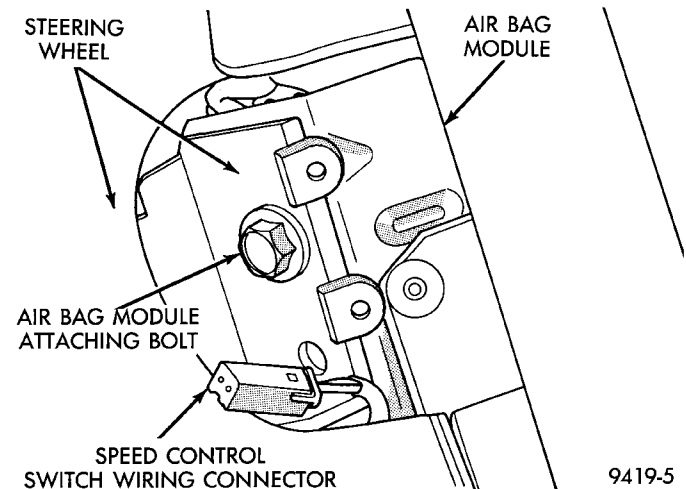

Fig. 9 Air Bag Module Mounting Bolts
(6) Remove the 2 fasteners, 1 on each side of steering wheel, attaching the air bag module to the steering wheel (Fig. 9).
(17) Install air bag module into center of steering wheel. Align air bag module mounting holes with bolt holes in steering wheel. Install **only the 2 original or correct replacement** air bag module attaching bolts (Fig. 9). Torque the 2 air bag module attaching bolts to 10 N·m (90 in. lbs.).
(18) Install key lock cylinder into lock housing. Key lock cylinder is installed by positioning key cyl-